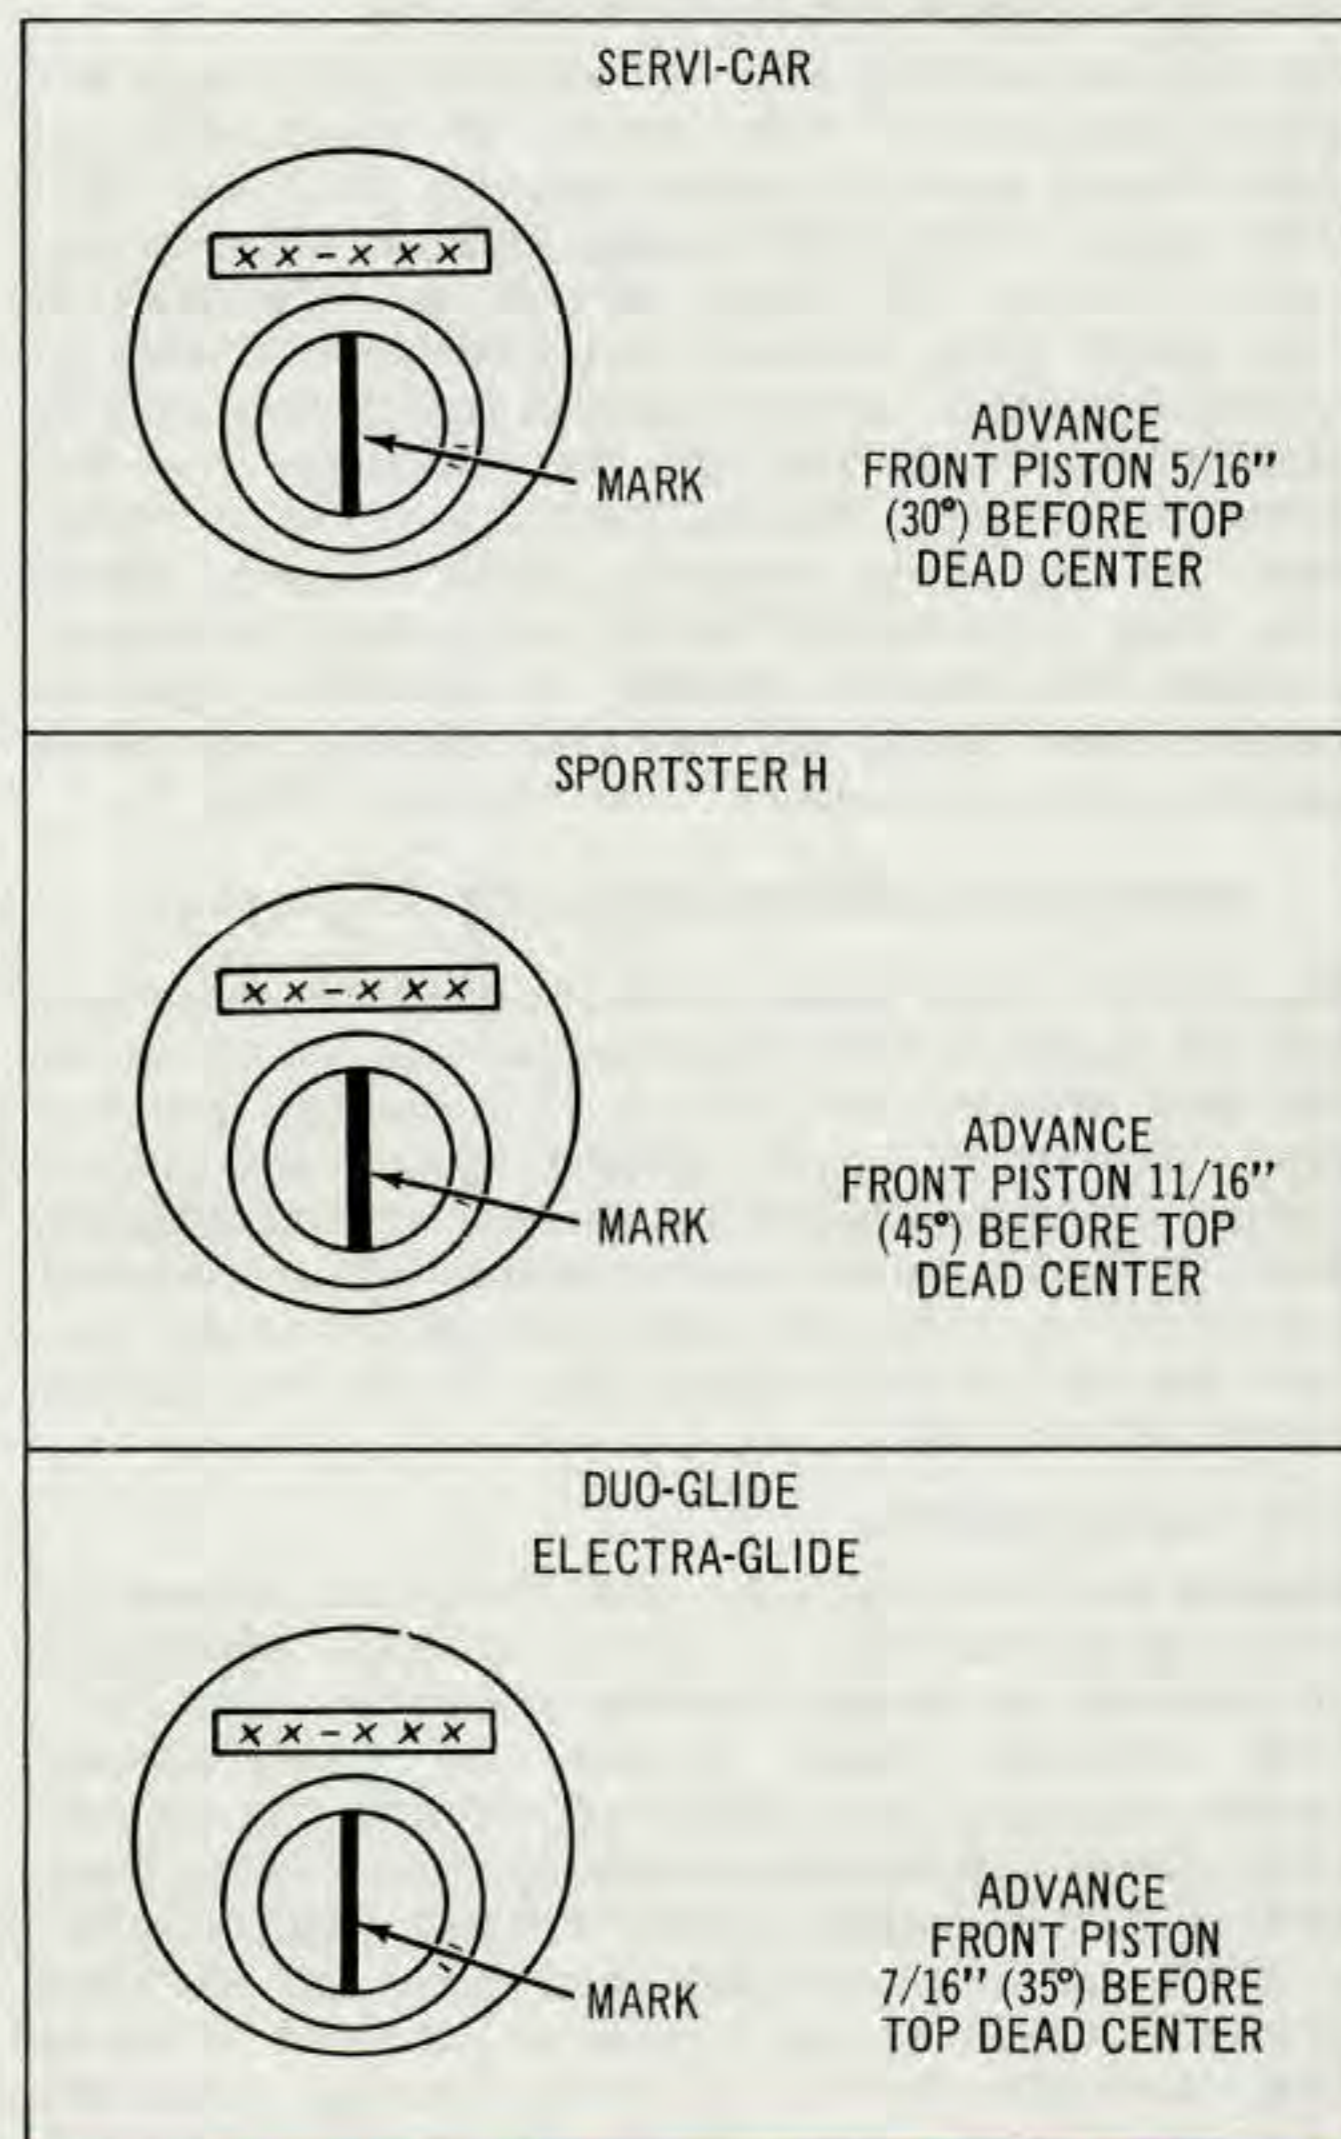

Figure 5F-3A. Ignition Timing Schematic,
Remove spark plugs to permit engine to turn easily; remove screw plug from timing inspection hole in left side of crankcase. Telescope front push rod cover so that opening and closing of valve can be observed. Turn engine in direction in which it runs until front piston is on compression stroke (just after front intake valve closes) and continue turning engine very slowly (less than 1/2 revolution) until advance timing mark on flywheel is aligned in the inspection hole, as shown in Figure 5F-3.
Install a new circuit breaker gasket (23) using gasket sealer. Insert circuit breaker shaft and stem assembly into gear case cover with wire (12, Fig. 5F-2) inserted in hole of stem flange. Before engaging circuit breaker driving gear, turn shaft counterclockwise, approximately 60 degrees from position where mark (3, Fig. 5F-1) on cam lobe lines up with breaker lever fiber block. Insert screws (21, Fig. 5F-2) snug, but not tight. Temporarily position base on shaft and stem assembly in fully advanced position.
Observe how closely mark on cam lobe lines up with lever fiber. If it does not line up, remove screws (21, Fig. 5F-2), lift circuit breaker shaft and stem assembly from gear case. Turn shaft gear so its engagement with its driving gear is changed on tooth. Check again according to breaker cam mark. Repeat this procedure until gear engagement is attained which closely aligns mark on cam with breaker lever fiber. Then tighten screws (21, Fig. 5F-2).